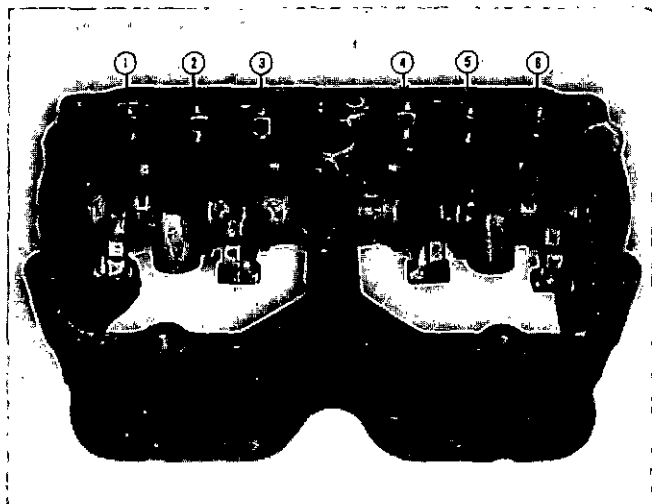

Fig. 3-7 (N10326). The Rocker Lever Assembly.
3. Start the shaft into the housing and install the levers as the shaft is pushed through. See Fig. 3-7 for correct position of levers. Make sure that you install the shaft correctly. The setscrew hole must be to the top and the seven oil holes must be toward the flat side of the housing.
- a. Install the exhaust (1), injector (2), and intake (3) levers.
- b. Install the intake (4), injector (5), and exhaust (6).